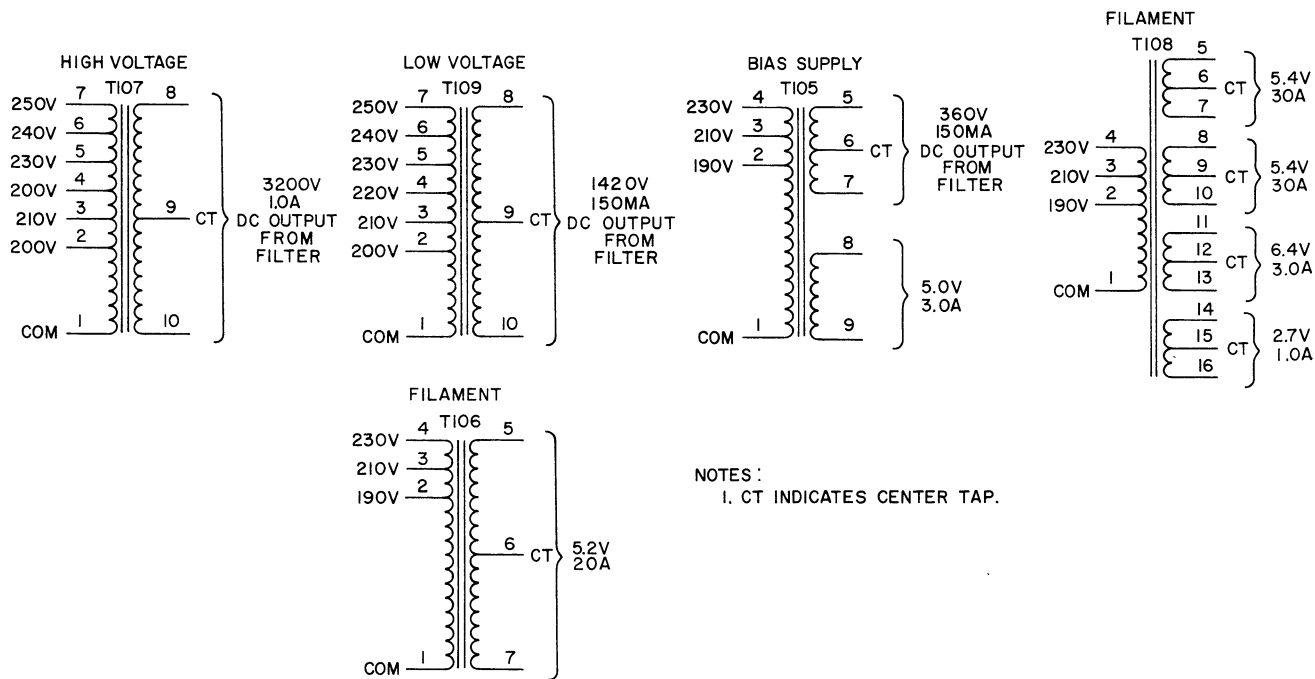

Figure 2-3. Transformer Details
- d. Measure the station line voltage. Refer to figure 2-3 and make connections to the high-voltage transformer (T107) primary terminals that most nearly correspond to this voltage. If the normal station voltage is low, use the low-voltage taps on the bias supply transformer (T105), the 575A filament transformer (T106), the main filament transformer (T108), and the low-voltage plate supply transformer (T109).